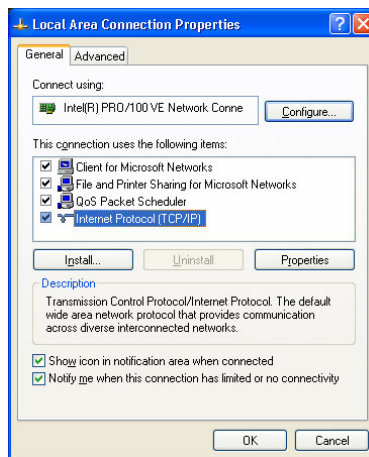

Figure 53: Local Area Connection Properties Window
5. Select the Internet Protocol (TCP/IP) and click the **Properties** Button (see Figure 53).